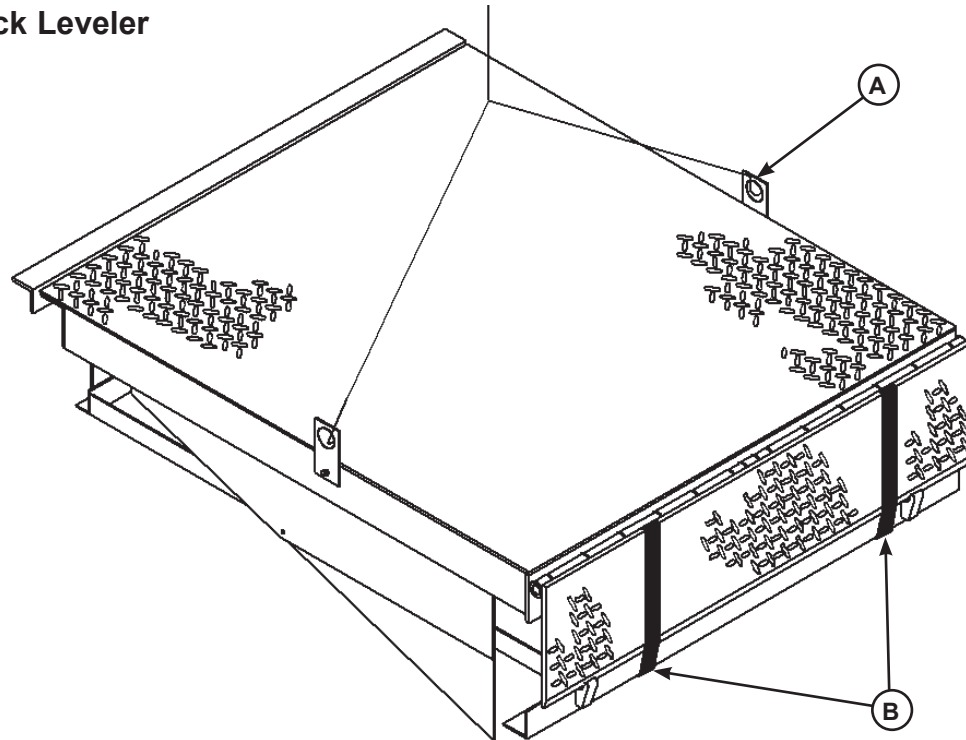

Figure 8
McGuire dock levelers are shipped with lifting brackets (A) fastened to the platform side joists, and shipping bands (B) around the platform lip and leveler frame (see Figure 8).
3. Attach lifting chains to lifting brackets (A) and to a lifting device (i.e., hoist or fork truck) having the appropriate lifting capacity and reach.